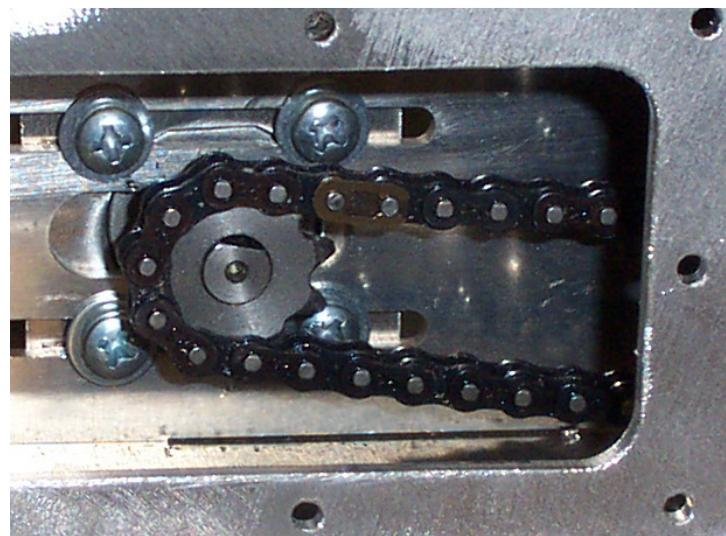

Figure 31: Master Link Installation
6. Install the master link as shown in Figure 31.